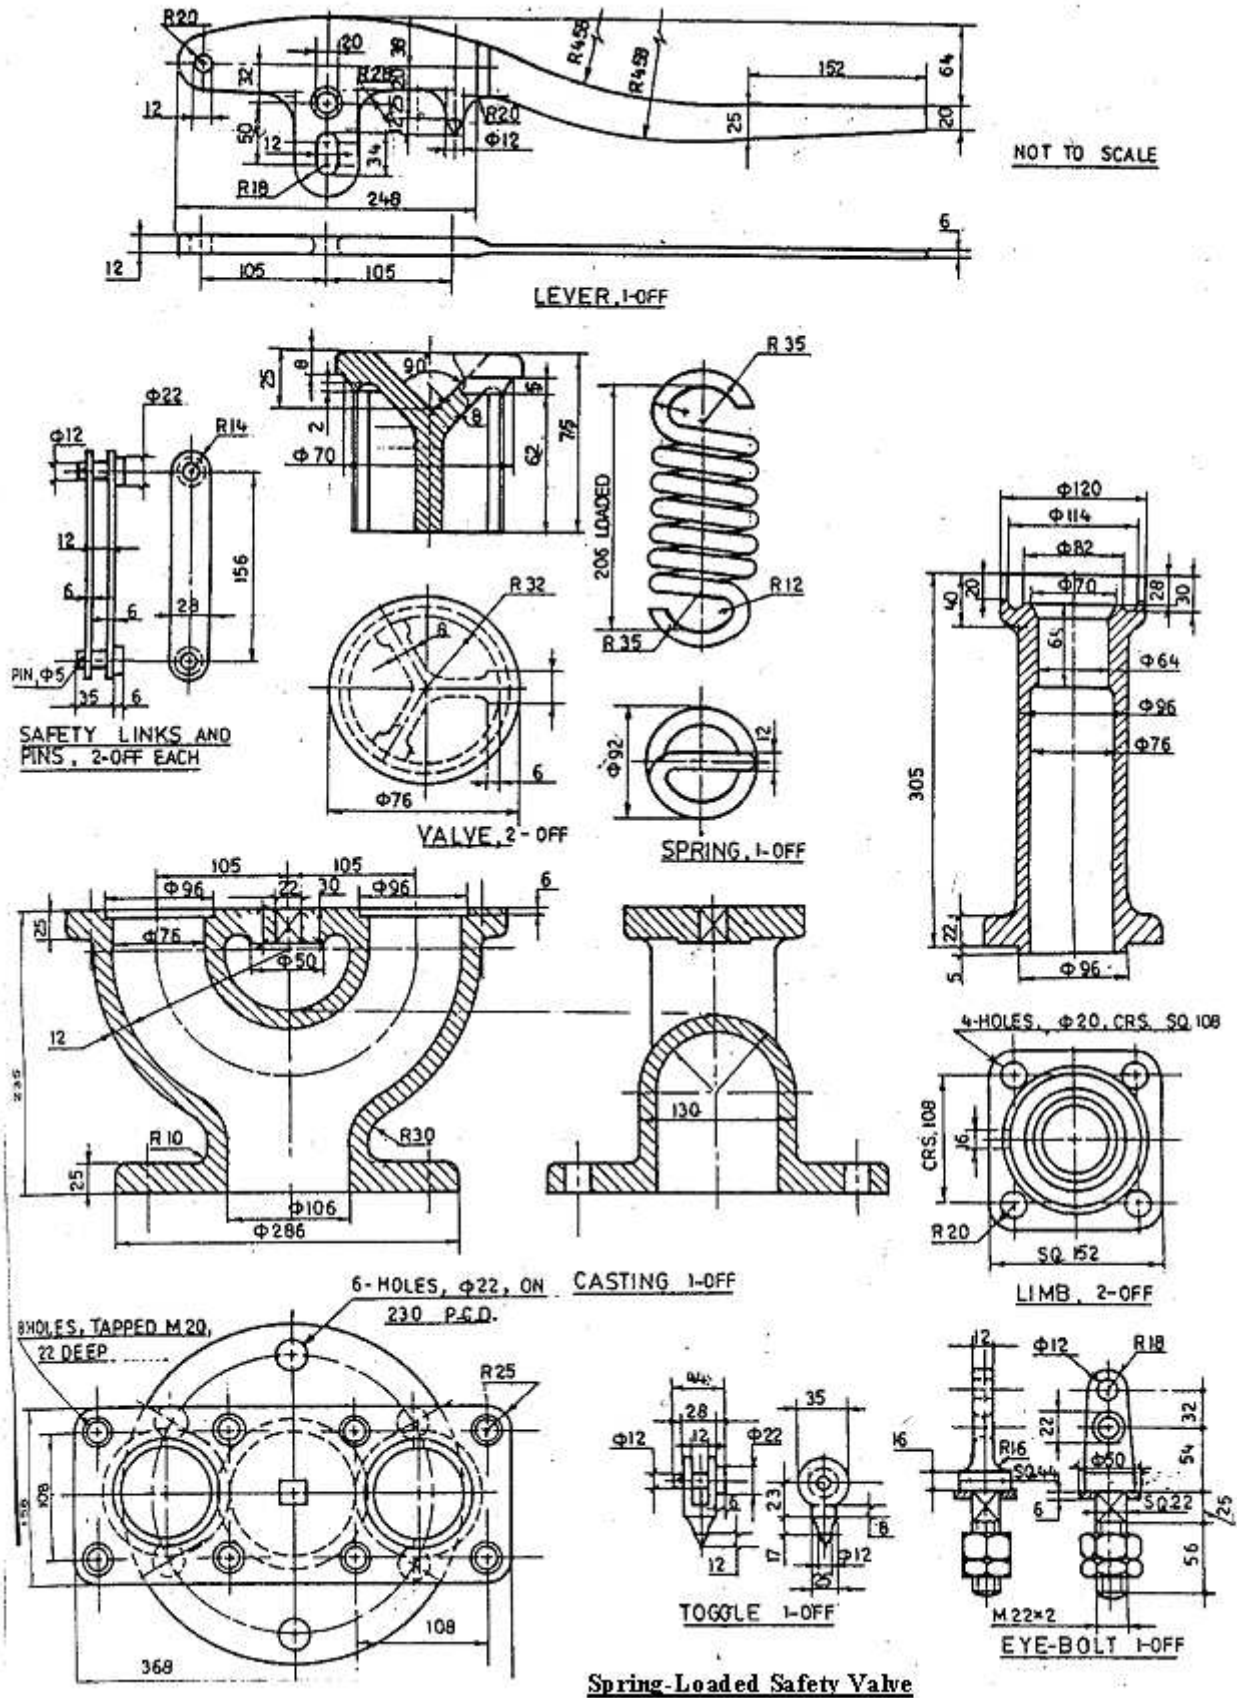

Figure 3:
2. Figure 3 shows the details of a spring-loaded safety valve. Draw the following assembly. [60]